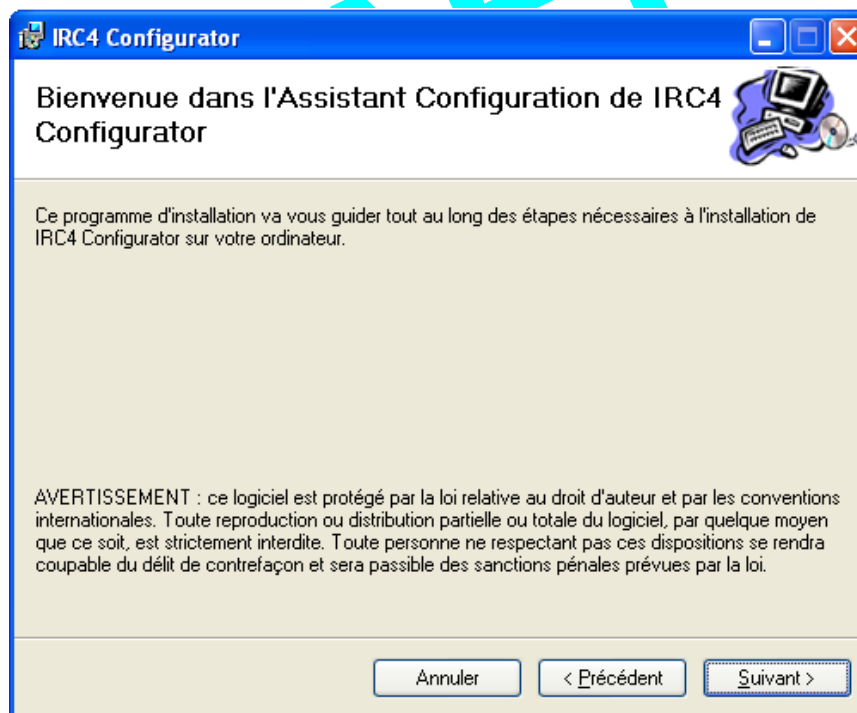

Figure 2-1 : The opening screen of the IRC4 Configurator Software wizard
- 4- Select and run the `setup.exe` file to start the IRC4 Configurator Software wizard (see Figure 2-1).